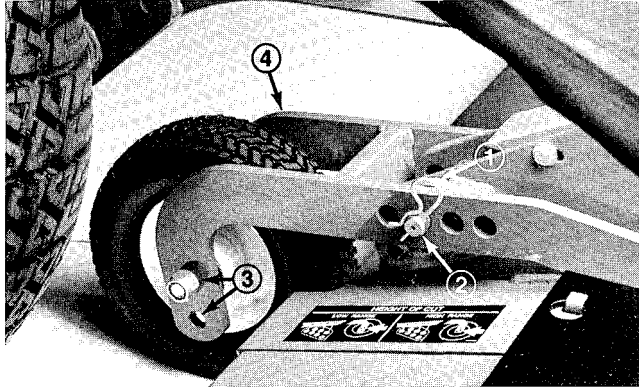

Figure 8
3. On the front cutting unit, remove the hairpin cotter and clevis pins from the rear castor pivot arms (Fig. 8). Align the pivot arm holes with selected height-of-cut bracket holes in the deck frames, insert clevis pins and install the hairpin cotters (Fig. 8).